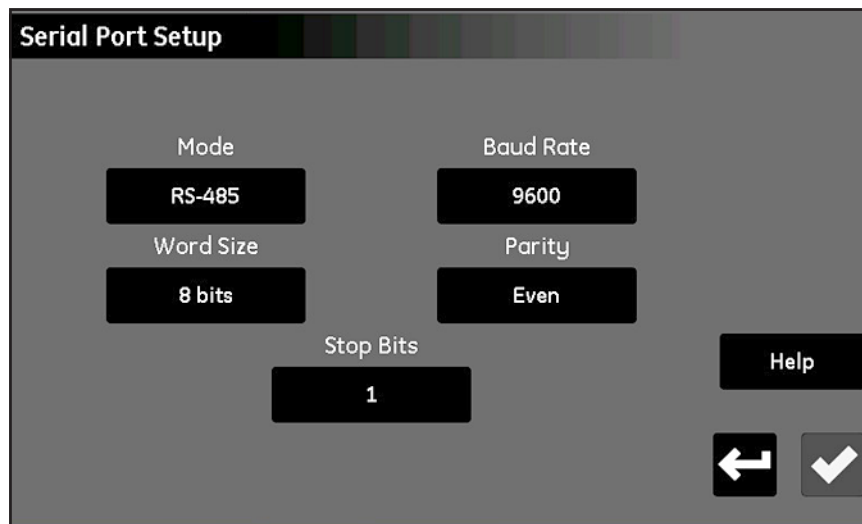

Figure 67: Serial Port Setup Screen
1. From the *Configuration Menu* screen (see *Figure 52 on page 59*), tap the **Serial Port** button to open a *Serial Port Setup* screen similar to *Figure 67* below.